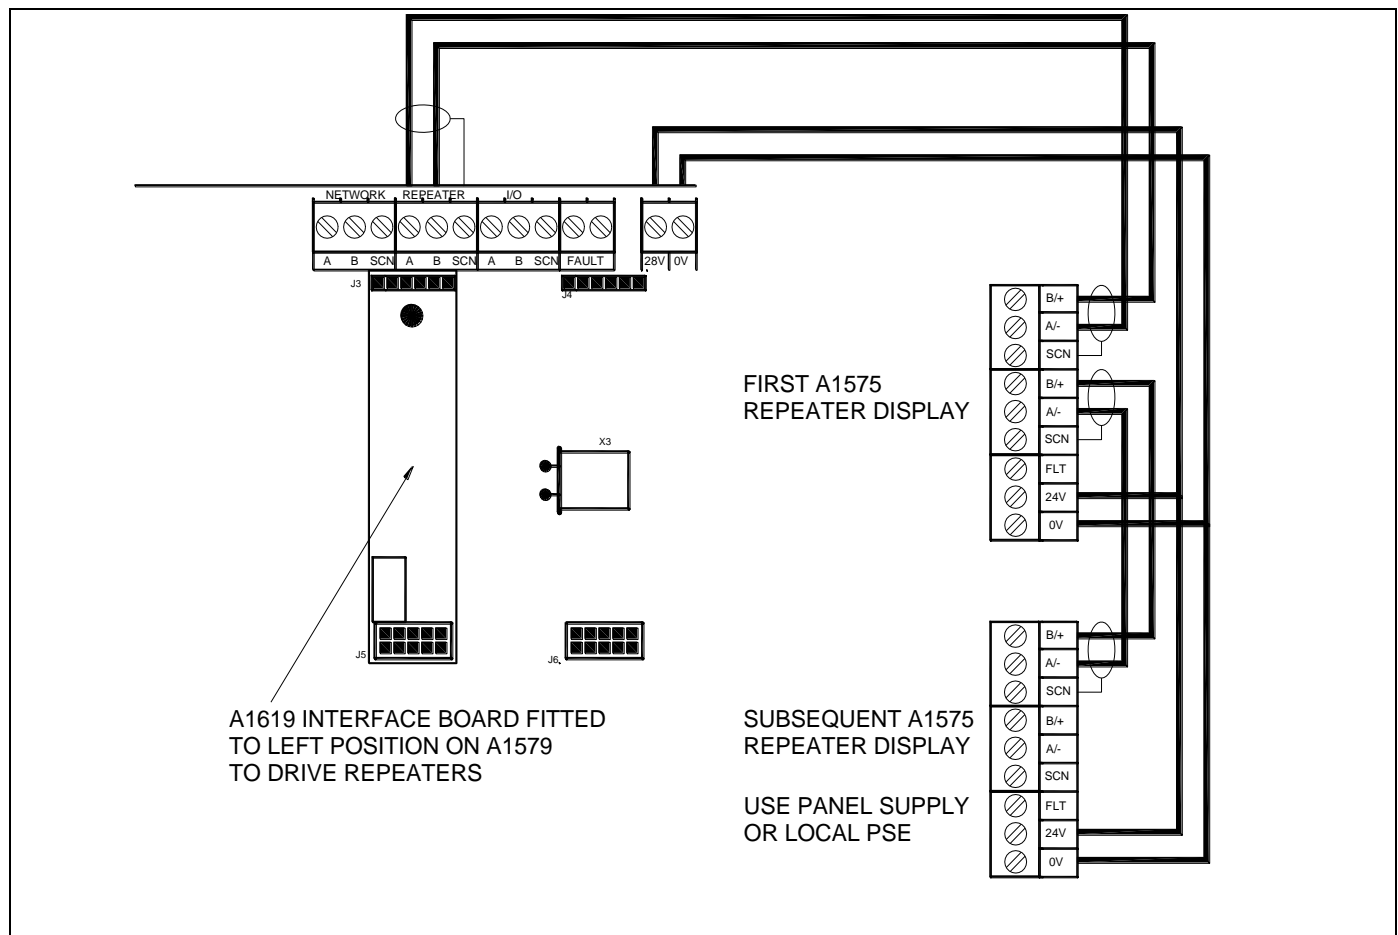

Figure 3 – Repeater connection diagram
3. Connect the repeater RS485 wiring as shown in Figure 3.
4. If the repeater is to be powered from the panel connect the 28V auxiliary output from the motherboard to the A1575 repeater display. This is also shown in Figure 3.